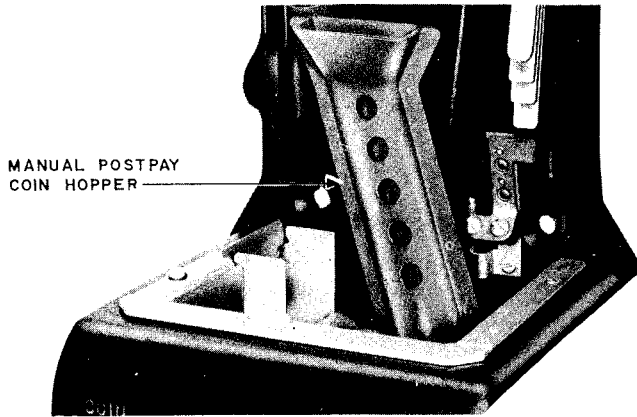

Fig. 5 — Manual Postpay Mechanism Unit
**5.01** In manual postpay service coins are deposited only after the operator has completed the connection to the called party. Refund of deposits is not required. The coin hopper serves simply as a guide to direct coins from the coin chute into the coin receptacle. The later-type coin hopper has clean-out holes to aid in removing stuck coins (see Fig. 5).